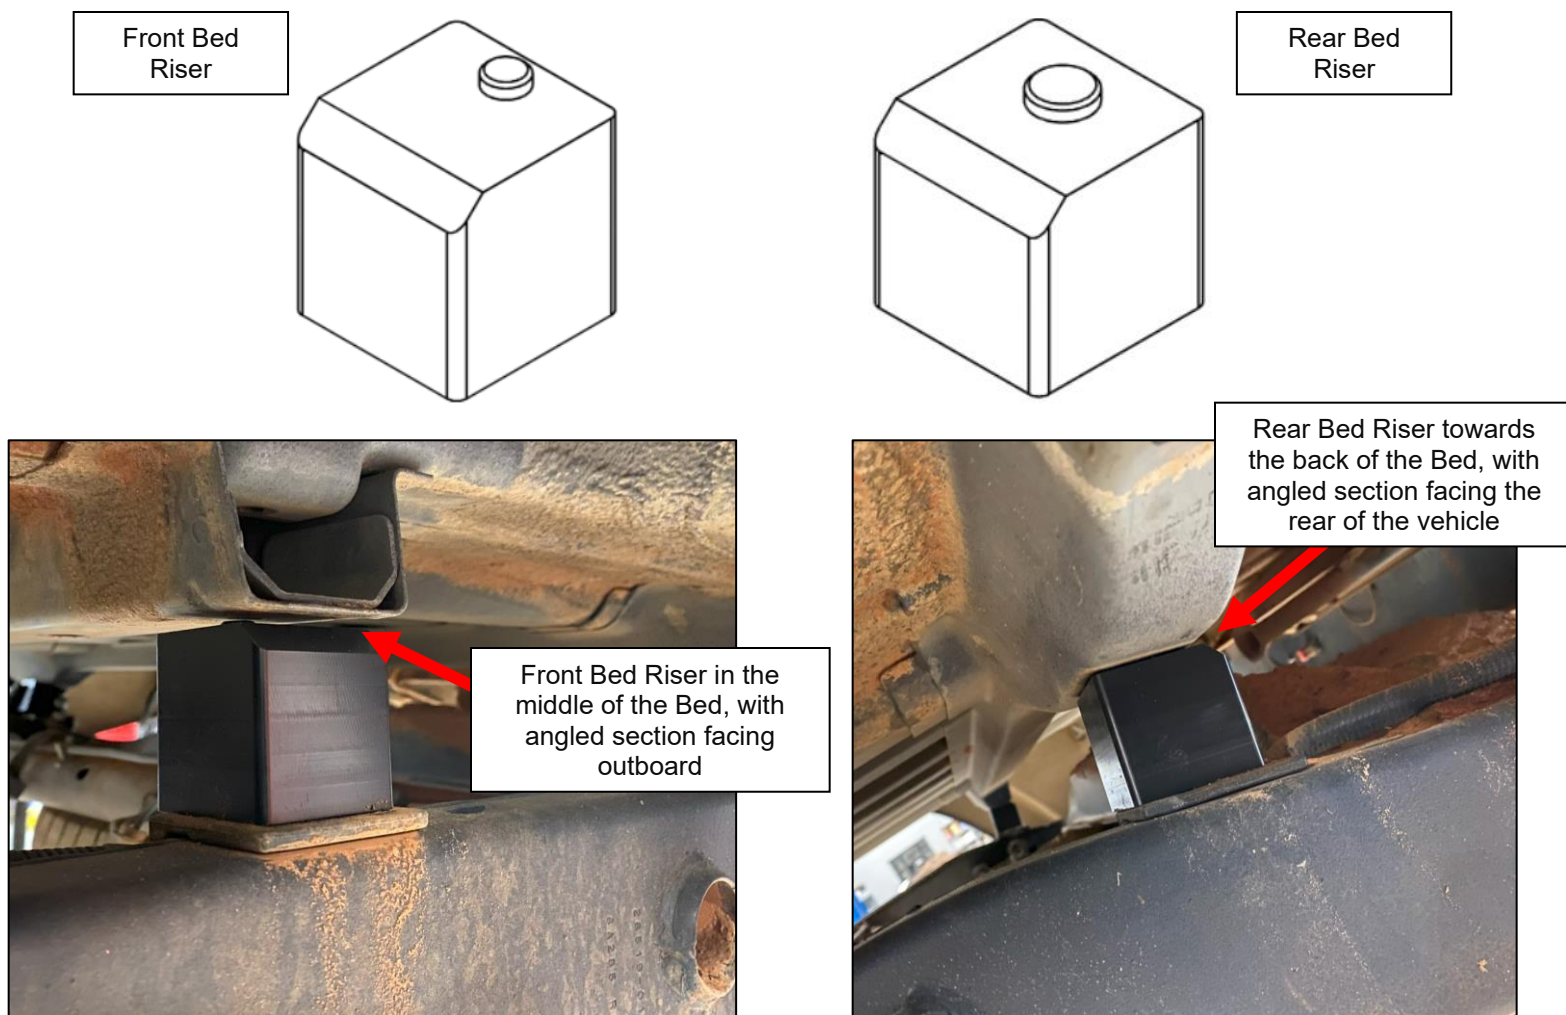

Figure 15
24. Locate (8) eight M12 x 1.25 Hex Head Bolts, 170mm and (8) eight M12 Washers. Place a Washer on each Bolt and insert the bolt through the Frame and Spacer and thread in by hand. Make sure to reuse any lower bushings or washers that came off with the OE Bolts. The order should be **BOLT → WASHER → OE BUSHING → FRAME → BODY MOUNT**. It is recommended to use Anti-Seize on these bolts.
25. Slowly lower the Truck Cab back onto the frame. Once positioned, torque all (8) eight bolts to **65 ft-lbs**.
26. Remove the (4) four bolts that secure the Truck Bed to the Frame.
28. Check for clearance and insert (4) four Lift Spacers **ON TOP** of the frame bushings and frame.
29. Locate (2) two Front Bed Risers and (2) two Rear Bed Risers. They will not have a bolt and will be sandwiched between the Frame and the Truck Bed. The Front Bed Riser will be taller and have the smaller tab on top, while the Rear Bed Riser will be shorter and have the larger tab on top. Install them in the positions as shown, making sure to line up the tabs with the holes in the Truck Bed. *Figure 15.*